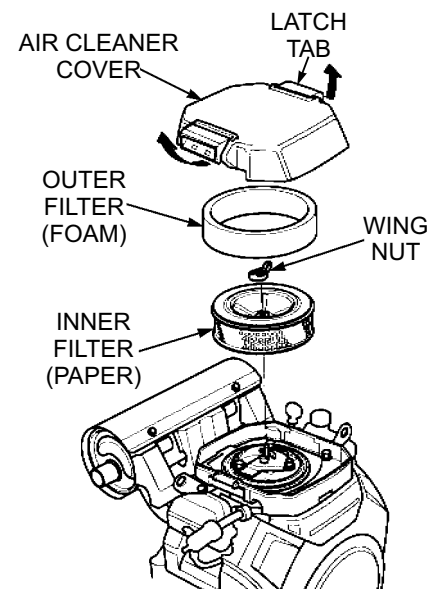

Figure 14. Air Filter Components
1. Release the latch tabs (Figure 14) on each side of the air cleaner cover, and remove cover.